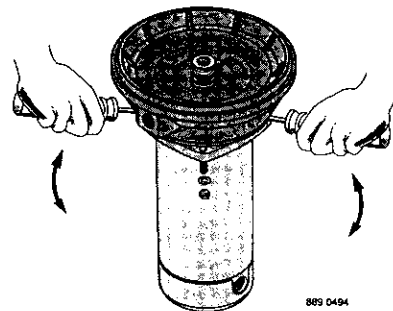

Figure 15 – Remove Seal plate
3. Unscrew four nuts holding pump back half to motor. Remove rotating half of seal by placing two screwdrivers under back half of pump body and carefully prying up (Figure 15). Back half of pump body will slide off shaft, bringing seal with it.